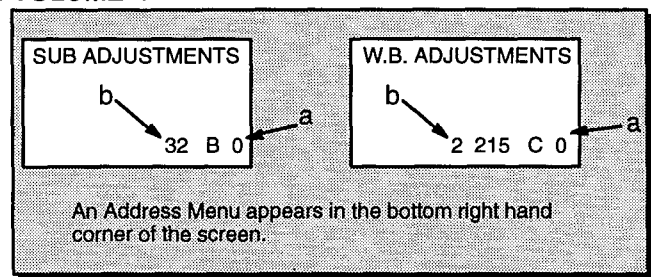

Figure 11. Serviceman Mode Menu Adjustments
**Note:** Only the applicable settings for the Receiver serviced will be available (see a in Figure 11).
1. **Press Channel Up/Down** on the Remote Control to select one of the 8 available Service Adjustments (a in Figure 11).
**Important Note:** Write down the original value set (b in Figure 11) for each address before modifying anything. It is easy to erroneously adjust the wrong item.
2. **Press Volume Up/Down** on the Remote Control to adjust the level of the selected Service Adjustment (b in Figure 11).
1. **Press Channel Up/Down** on the Remote Control to select one of the 12 available Service Adjustments (a in Figure 11).
**Important Note:** Write down the original value set (b in Figure 11) for each address adjustment before modifying anything. It is easy to erroneously adjust the wrong item.
1. **Press Channel Up/Down** on the Remote Control to select one of the 12 available Options Adjustments (a in Figure 11).
1. Press **Channel Up/Down** on the Remote Control to select one of the 5 available MTS Adjustments (a in Figure 11).
***Important Note:** Write down the original value set (b in Figure 11) for each address before modifying anything. It is easy to erroneously adjust the wrong item.*
2. Press **Volume Up/Down** on the Remote Control to adjust the level of the selected Service Adjustment (b in Figure 11).